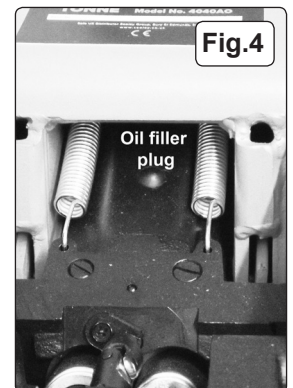

Fig.4
- 7.3.2. With the jack in the level position, remove the oil filler plug (Fig.4).